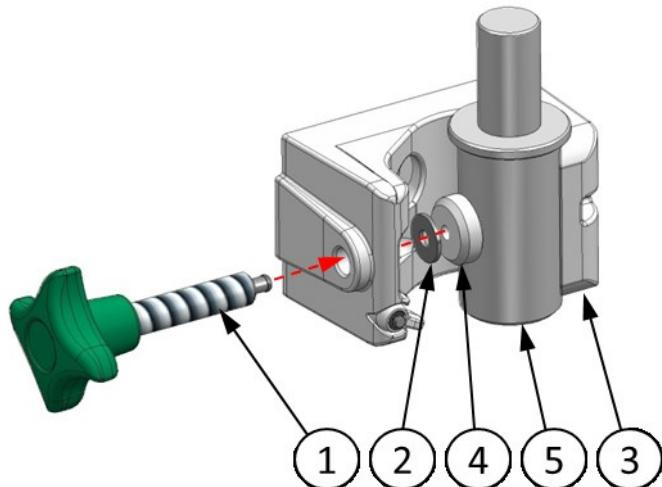

Fig. 73 Pole clamp screw assembly
1. Unscrew the part **Pole clamp screw (1)** from **Rotatable pole clamp (4)** opposite to the direction indicated by the red arrow in **Fig. 73**.
2. Using the **TA-15** tweezers put the **4,3x12x1 Washer (2)** on the plug of part **Pole clamp screw (1)** (see Fig. 73).
3. Place the **TA-16 (5)** in the **Rotatable pole clamp (3)** as shown in Fig. 73.
4. Using the **TA-15** tweezers place and hold the **Pole clamp knob end (4)** on **Pole clamp screw (1)** as shown in Fig. 73.